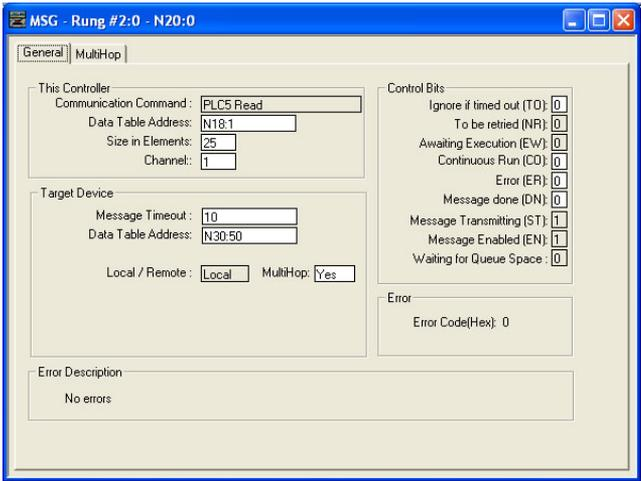

Figure 118: MSG Configuration, "General" Tab
- b) Upon hitting the <ENTER> key while in the "Control Block" entry box, the MSG Properties dialog box should appear (or it can be opened by clicking on the "Setup Screen" button at the bottom of the MSG instruction). Refer to Figure 118.